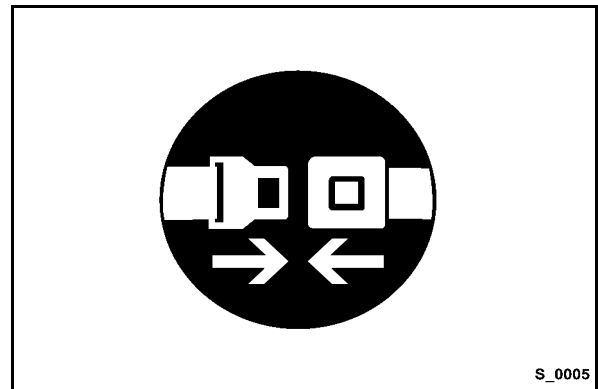

Fig. 45
- Fasten your seat belt (Fig. 45).